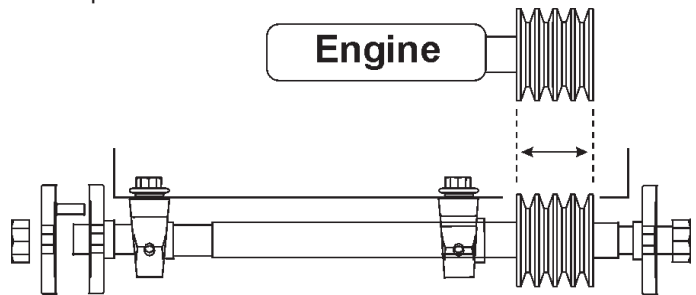

Figure 48. Pulley Alignment
6. Reorient the new pulley on the shaft, and ensure precise pulley alignment by utilizing an accurate straight edge (see Figures 48 and 49).